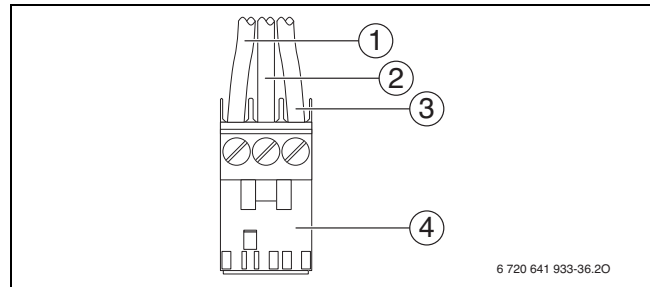

Fig. 58 Attach plug (mains power supply)
- Connect cable to **the white plug** according to Fig. 58.